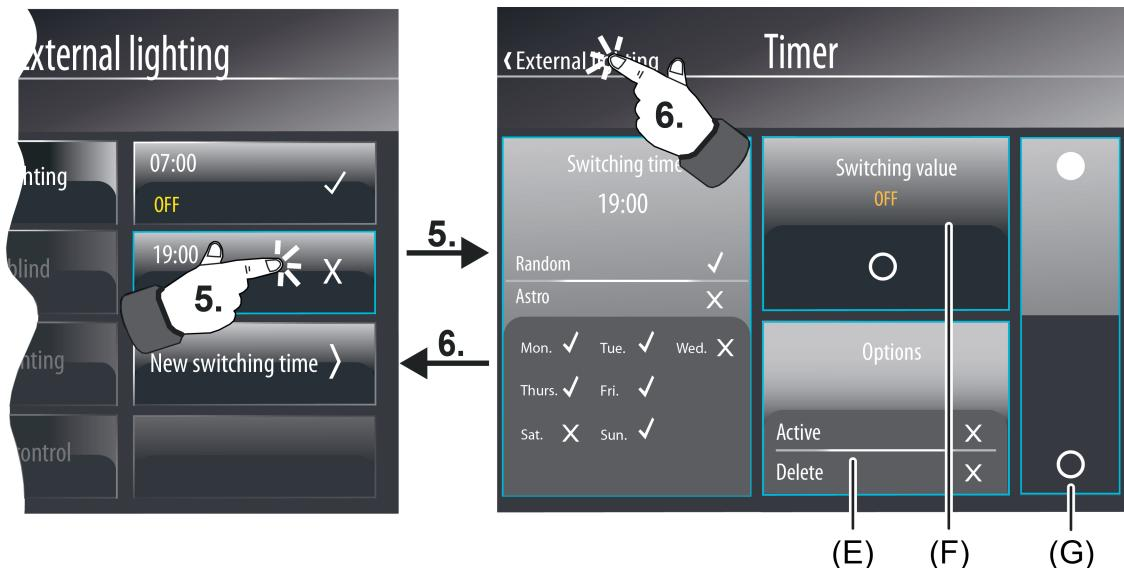

Figure 86: Example of a configuration page for switching times (right) -
With the data type "Switching" (figure 86), for example, a display area with status text and icon (F) is visible and an operating area (G) for presetting the switching command by a rocker switch. With the data types "Scene" or "Operating mode switchover" status and operating elements are displayed in the same way.